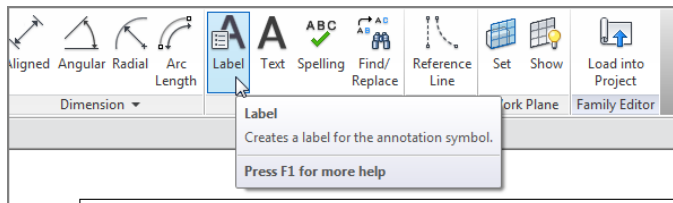

FIGURE 14.25: Clicking Label on the Create tab
4. On the Text panel of the Create tab, click Label, as shown in Figure 14.25.